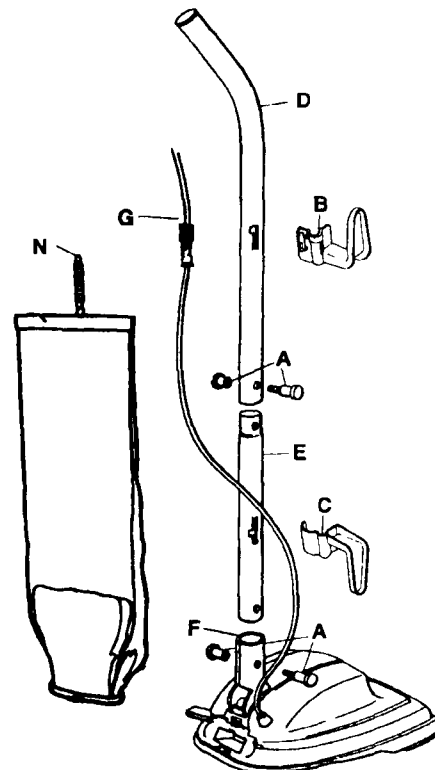
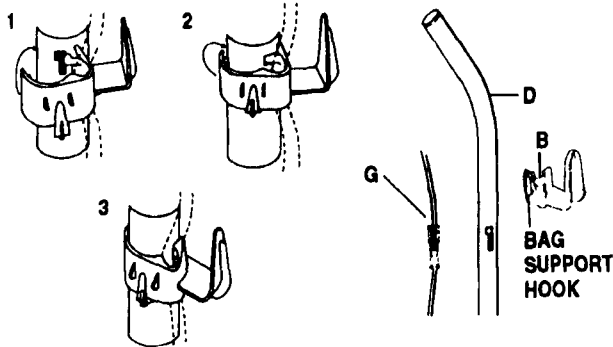
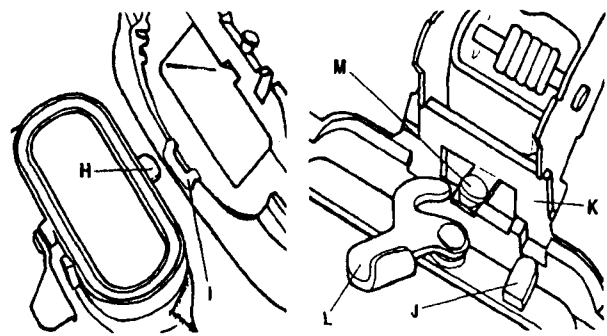

Figure 4
Figure 6
Figure 7
Slip the upper handle (D) and the lower handle (E) together so the handle bolt holes align and the slots in the handle are positioned as shown in Figure 4. Insert a 2-part bolt (A) in the center of the handle and tighten.
Hold the assembled handle (D/E) so it curves away from the cleaner (Figure 4). Then push the handle into the handle socket (F) at the rear of the cleaner (Figure 4). Align the holes, insert the other 2-part bolt (A), and tighten.
**UPPER CORD HOOK:** Pull the spring (G) on the cord upward toward the top of the handle (Figure 6). Insert the lower half of the spring (G) into the upper cord hook (B) (Figure 6).
Make sure slots in handle are positioned properly (Figure 4). Place inner tab into slot as shown in (1) and press hook around handle (2) snapping opposite inner tab into place (3) (Figure 6).
**LOWER CORD HOOK:** Insert the power cord into the lower cord hook (C) (Figure 4). Snap the hook into the lower handle. Pull the cord up to tighten but leave enough slack near the base so the cord is not strained when the handle is lowered. Wrap the cord around the two cord hooks. Fasten the plug to the cord to prevent unwinding.
Insert the bag adapter clip (H) on the bottom of the bag collar into the bag adapter retainer (I) below the air outlet (Figure 7).
Push the bag collar up and forward so the locator lug (J) to the right of the cam latch (L) slides into the slot (K) (Figure 7). Then turn the cam latch to lock the bag onto the shoulder rivet (M) (Figure 7). To support the bag, loop the spring (N) from the top of the bag onto the bag support, located to the back of the upper cord hook (B) (Figure 4).